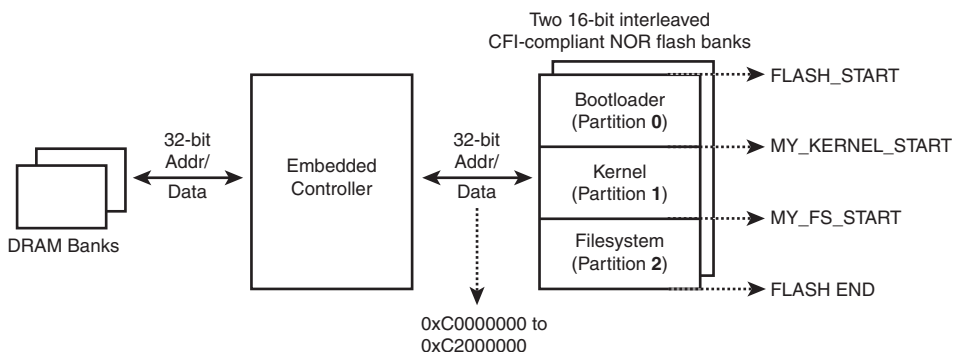

FIGURE 17.2 Flash Memory on a sample Linux handheld.
Consider the Linux handheld shown in Figure 17.2. The flash has a size of 32MB and is mapped to 0xC0000000 in the processor's address space. It contains three partitions, one each for the bootloader, the kernel, and the root filesystem. The bootloader partition starts from the top of the flash, the kernel partition begins at offset MY\_KERNEL\_START, and the root filesystem starts at offset MY\_FS\_START.4 The bootloader and the kernel reside on *read-only* partitions to avoid unexpected damage, while the filesystem partition is flagged *read-write*.
Let's first create the flash map and then proceed with the driver initialization. The map driver has to translate the flash layout shown in the figure to an `mtd_partition` structure. Listing 17.1 contains the `mtd_partition` definition corresponding to Figure 17.2. Note that the `mask_flags` field holds the permissions to be masked, so `MTD_WRITEABLE` implies a read-only partition.
flash in Figure 17.2 */
- Probes the flash via a suitable MTD chip driver (discussed in the next section). Only the chip driver knows how to query the chip and elicit the command-set required to access it. The chip layer tries different permutations of bus widths and interleaves while querying. In Figure 17.2, two 16-bit flash banks are connected in parallel to fill the 32-bit processor bus width, so you have a two-way interleave.